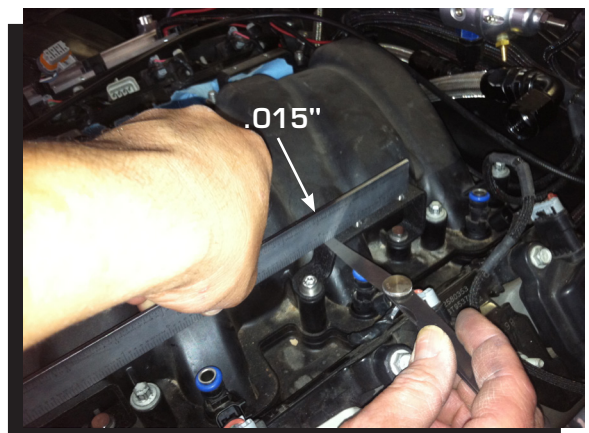

Figure 12
5. Check the rail brackets for the correct installation height with a feeler gauge. If there is more than .015" of clearance, use a shim from the shim kit to correct (Figure 12).